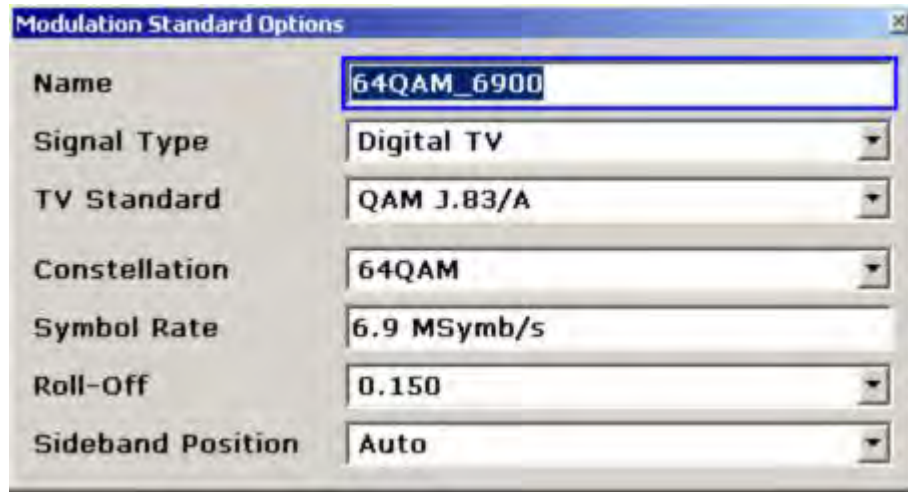

Fig. 2–48 **Modulation Standard Options** dialog box for digital TV
For analog TV the **Modulations Standard Options** dialog box (see Fig. 2–47) is structured as follows:
- The channel table references modulation standards by their **Name**. Its name (see Fig. 2–48) should comprise information about the used TV standard, the color system and the sound system, e.g. "PAL_BG_STEREO".
- The channel table references modulation standards by their **Name**. Its name (see Fig. 2–48) should comprise information about the used constellation and the symbol rate, e.g. "64QAM_6900".